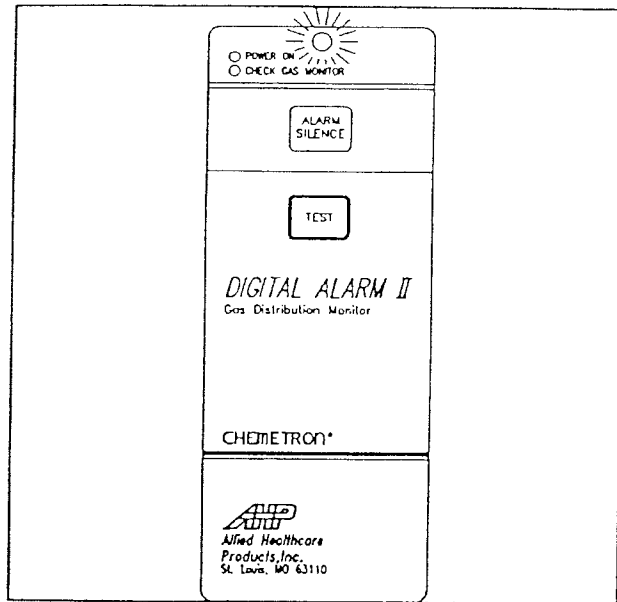

Figure 2 - Control Module
1.3.2.1 The Control Module (see Figure 2) contains a microprocessor that controls all of the input and output functions of the alarm (audible, visual and electronic). At power up and after being reset, the microprocessor determines what type of modules are included in the alarm.
- 2.1.4 The Alarm Silence Button (see Figure 2) during normal operation silences the audio alarm. Refer to Set-up Section for details of its other functions.
- 2.1.5 The Test Button (see Figure 2) during normal operation puts the alarm in the alarm in the test mode. Refer to the Set-up sections for details of its other functions.
- 2.2.2 **Alarm State** - When an alarm condition occurs, the LED will turn red, and the audio alarm will be activated. At all times, actual pressure/vacuum levels can be observed on the digital display. The visual indicator will remain red until the alarm condition is cleared. The audio indication will remain active for the duration of the alarm condition unless silenced by the Alarm Silence Button (see Figure 2) on the Control Module.